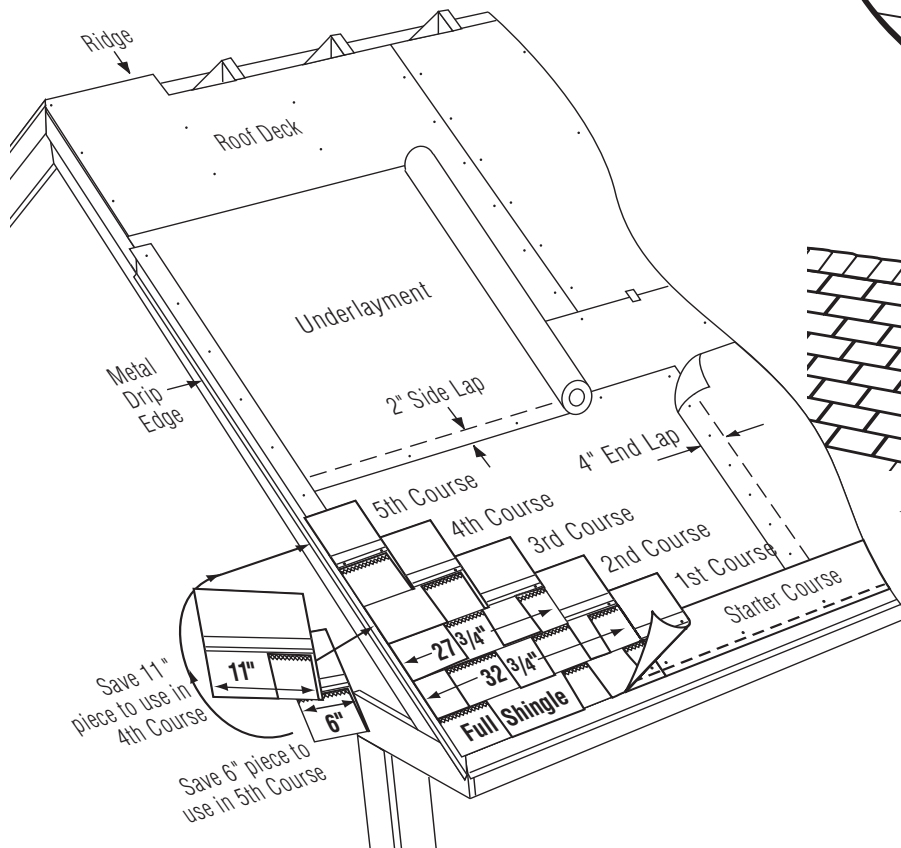

Figure 12-12: Applying the first 5 courses of **Metric** dimension. Note: The LandMark TL dimensions differ.
1ST COURSE: Apply a full shingle at the lower left corner of the roof. Make the lower edge and left edge lie flush with the edges of the starter course (Figure 12-12).
1. Cut 6" off the left end of the first shingle and save this piece for later use. Apply the 32³/₄" (34" for Landmark TL) long piece over and above the first-course shingle. Leave the bottom 5⁵/₈" tab portion of the first-course shingle exposed (Figure 12-12).